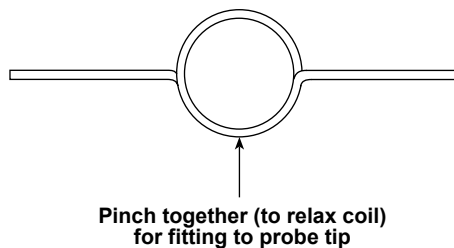

Fig. 13
2. Remove probe (if installed) and fit a pair of checking wires to the end of the probe tip, 90° relative to each other and a maximum 10 mm ($\frac{3}{8}$ ") from the tip end - see Figures 13 and 14.